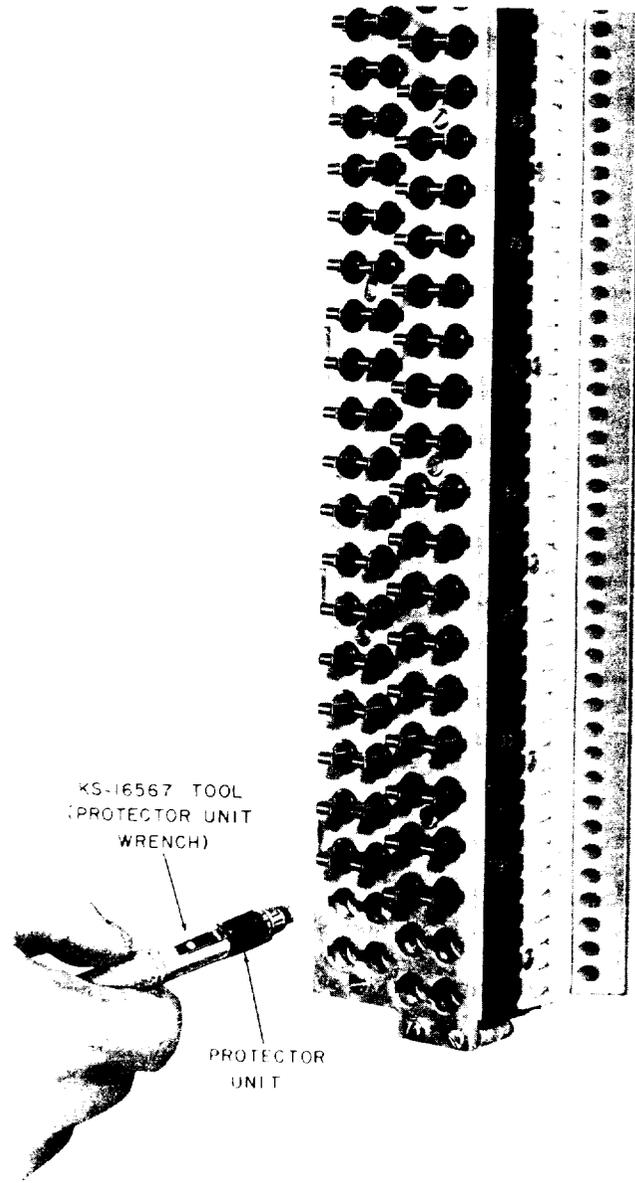

Fig. 1—Installing Protector Unit into 300-Type Protector Block With KS-16567 Tool
1.05 The 300-type connector (Fig. 1) supersedes a similar arrangement, coded the 121-type protector. All references in this section to the 300-type connector shall be considered to apply to the 121-type protector except as indicated in 3.03.
3.01 To remove protector units from circuits which *do not* have abnormally high voltages present, proceed as follows. Grasp the cap of the protector unit with thumb and forefinger and rotate 45° counterclockwise; then withdraw the protector unit. For ease in performing this operation, the KS-16567 tool should be used (Fig. 1).